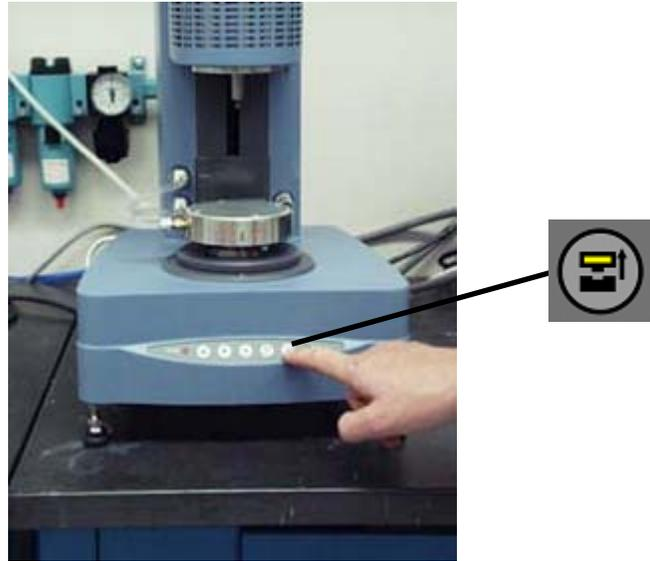

Figure 5.7
1. Press the **'Release button'** on the control panel (see Figure 5.7). A flashing green light indicates that the attachment can be unplugged.